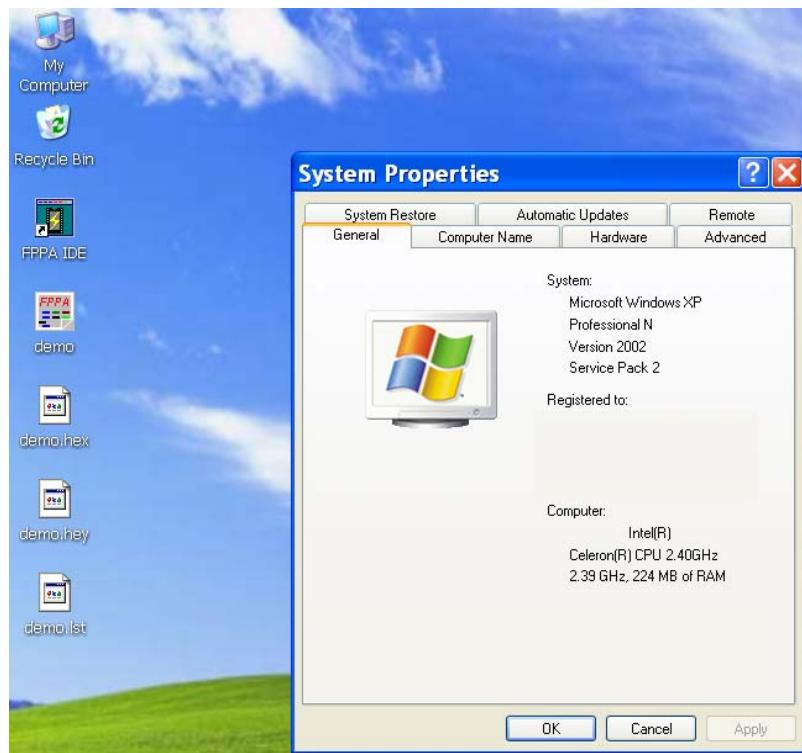

Fig.3-6 : System Properties of My Computer
Step 1 : Click 【My Computer】 by using mouse right button , then select 【Properties】 , the window of System Properties will be shown as Fig.3-6 .